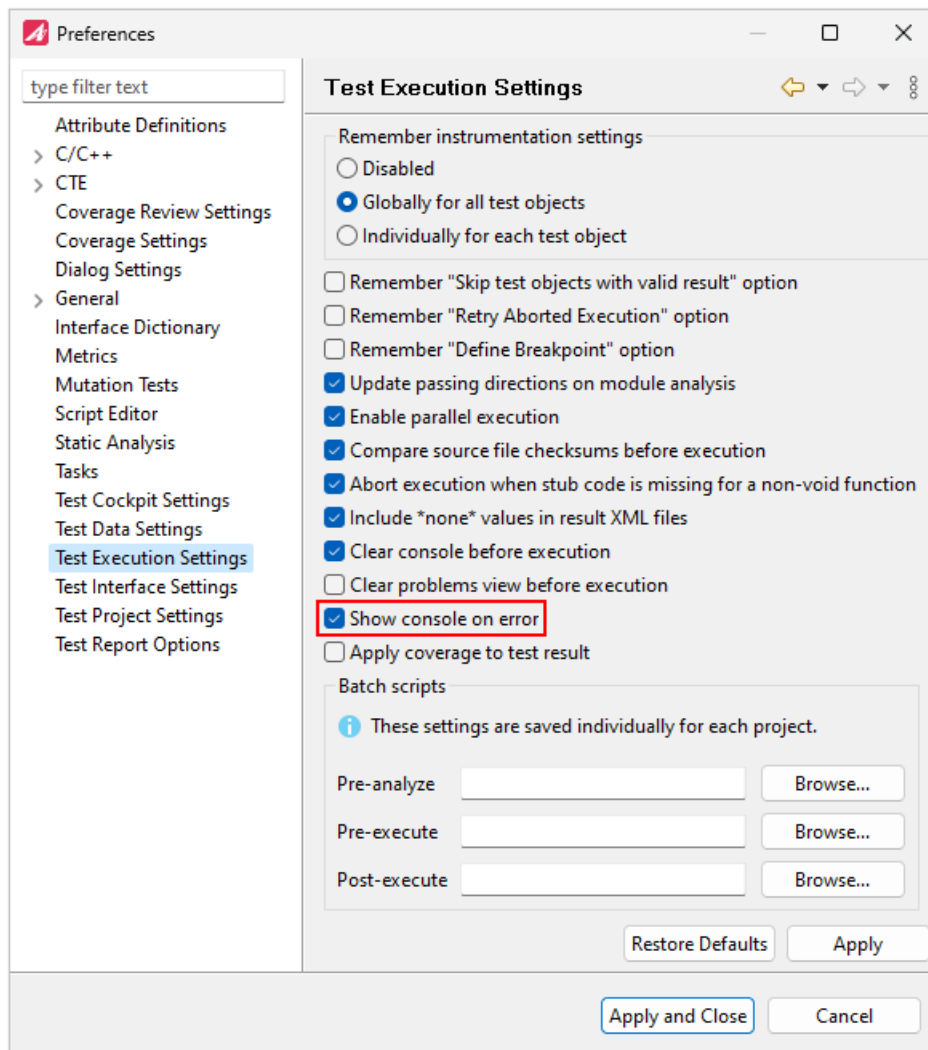

Figure 6.79: Preference “Show console on error”
- Click on “Test Execution Settings” and check the setting “Show console on error” (see figure 6.79).